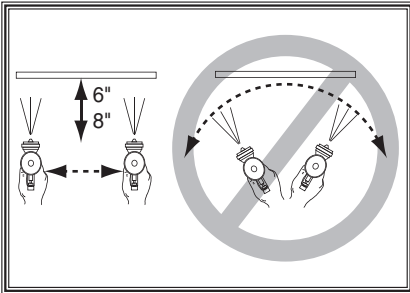

Figure 4. Spray technique.
9. Keep the gun tip perpendicular, parallel, and 6-8" from the work (as shown in **Figure 4**) when spraying. Do not allow your wrist to bend. This will cause the gun to arc across the surface and distribute the material unevenly, possibly creating sags and dry spots.